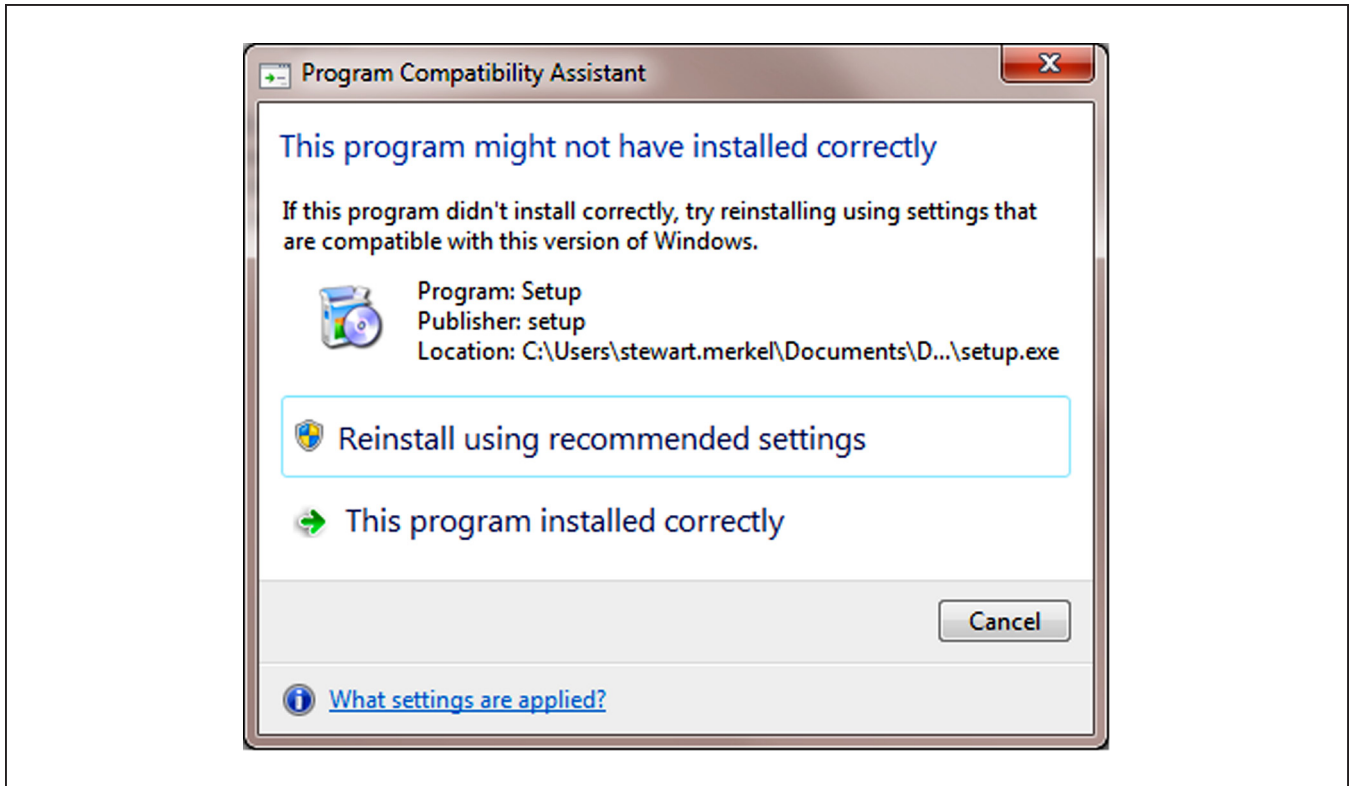
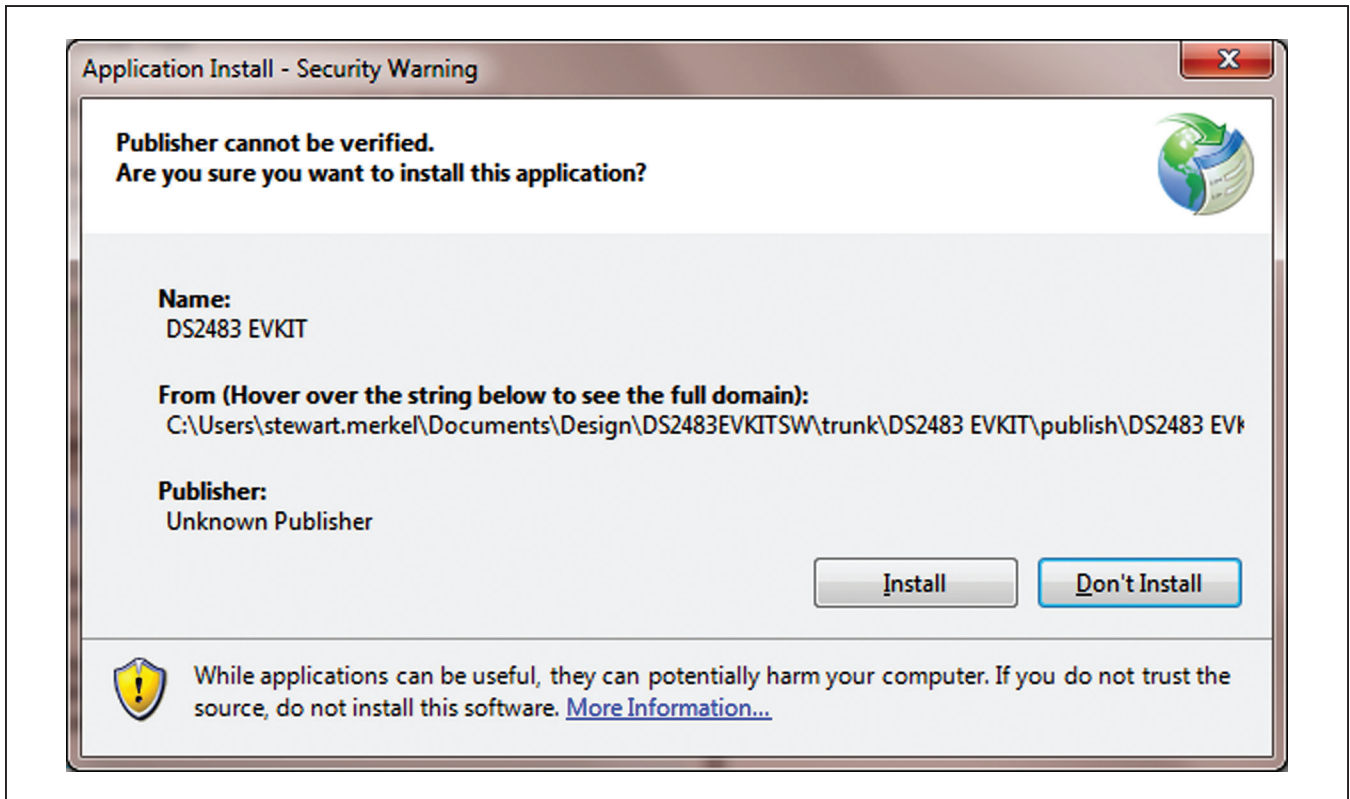

Figure 2. Program Compatibility Assistant
Figure 3. Application Install – Security Warning
- 6) Open the **DS2483 EVKIT** folder and double-click the **Setup.EXE**. If you encounter the dialog box shown in Figure 2, click the **Cancel** button. When prompted by the window as shown in Figure 3, click **Install**.